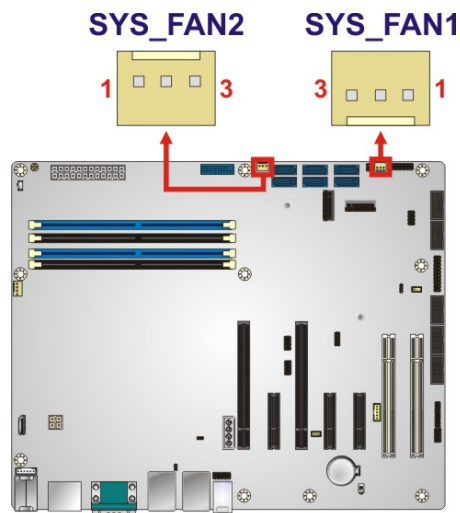

Figure 3-12: System Fan Connector Locations
- CN Location:** See **Figure 3-12**